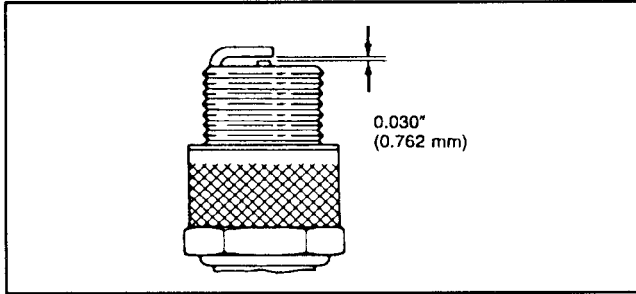

Figure 18
4. Set the air gap between the center and side electrodes at 0.030 of an inch (0.762 mm) (Fig. 18). Install correctly gapped spark plug w/gasket seal, and tighten the plug to 15 ft-lb (20.4 Nm).